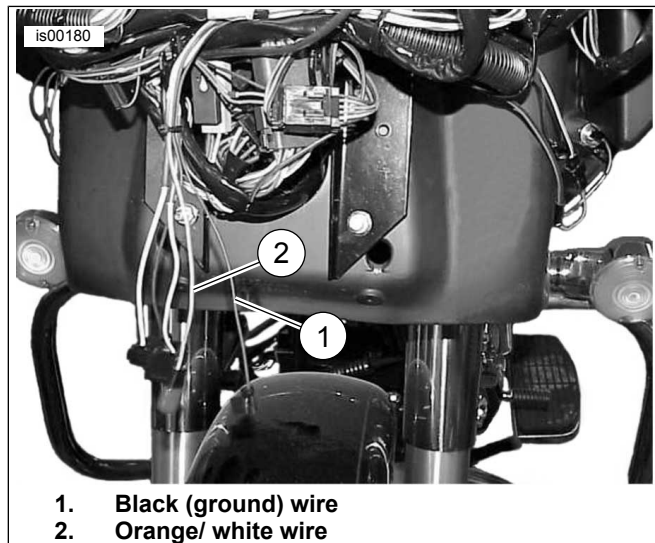
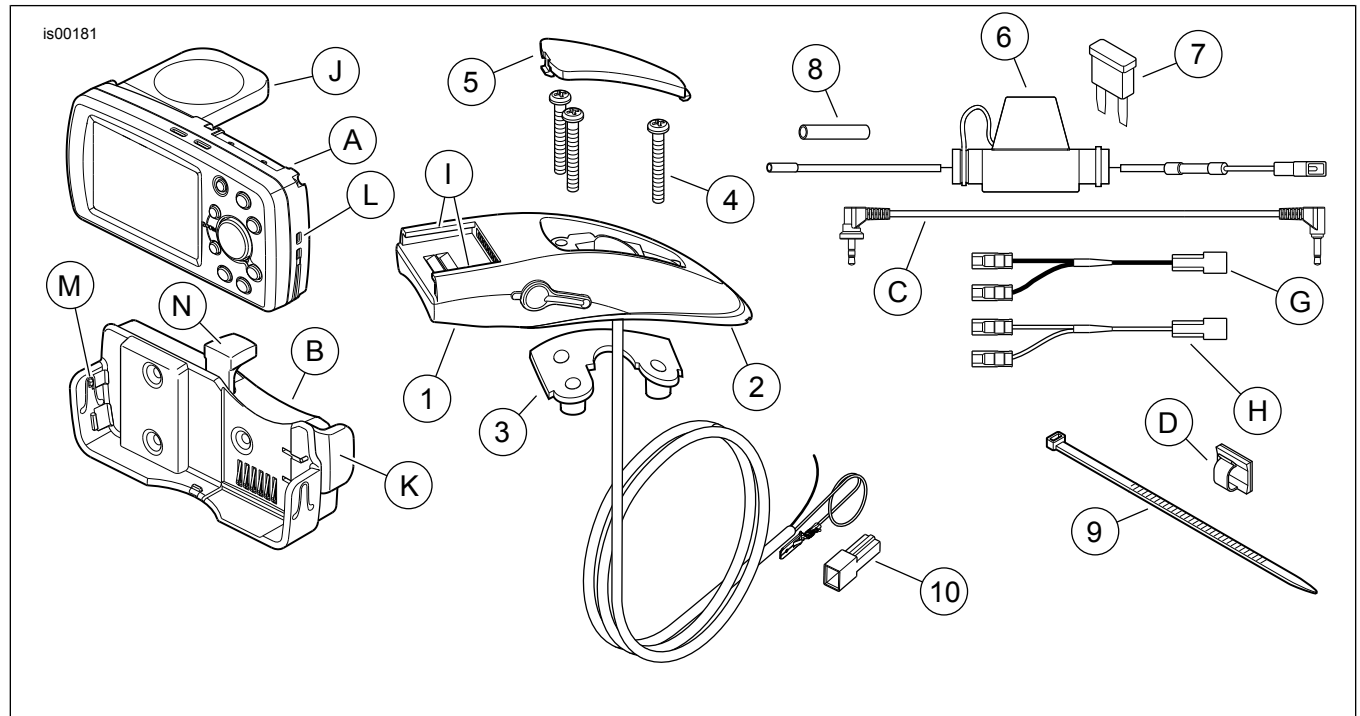

Figure 3. Wires for Hot Shoe Connection
Figure 4. Service Parts, J03555
See Figure 4 and Table 1.
3. See Figure 4. Obtain the Road Tech Quest unit (A) and cradle mount (B) from the Road Tech Quest GPS System Kit (sold separately).
4. Rotate the antenna (J) on the Road Tech Quest unit upward **at least** 90 degrees. Slide out the locking lever (K) located on the right side of the cradle mount.
5. Position the Road Tech Quest unit above the cradle mount, aligning the slots (L) on the sides of the unit with the tabs (M) on the inside of the mount.
7. Obtain the Hot Shoe (1) from the kit. Align the cradle mount with the Hot Shoe so that the grooves (I) in the Hot Shoe slide easily into the cradle mount. Slide the cradle mount back into the Hot Shoe until you hear two sharp "clicks".
12. While pressing downward on the release tab (N) on the top of the cradle mount, pull the assembled Road Tech Quest unit and cradle mount from the Hot Shoe and set it aside.
13. See Figure 4. Obtain the gasket (2), back plate (3) and three screws (4) from the kit.
17. Snap the cover (5) into the top of the Hot Shoe.
23. See Figure 3, and the INTERCONNECT HARNESS wiring diagram in the Service Manual. Proceed according to the availability of the black (1) and orange/ white (2) wires of the position lamp circuit [29B] of the interconnect harness, located near the headlamp: **If the wires of circuit [29B] are unused, and the tab connectors on the wire ends are intact:** If the wires of circuit [29B] are already in use:
- a. Remove the tape tying the black (1) and orange/ white (2) wires of circuit [29B] to the interconnect harness.
- c. See Figure 4. Obtain tab housing (10) from the kit. Fit the housing onto the tab terminal on the black wire from the Hot Shoe.
24. Obtain the 2 Amp fuse (7) from the kit, and open the cover of the fuse holder on the fuse holder harness. Plug the fuse into the fuse holder, and close the cover.
25. Plug the 3.5 mm stereo jack (with rubber boot attached) on the speaker/ audio cable (C) into the AUX-IN port on the front of the radio.
1. See Figure 4. Obtain the Road Tech Quest unit (A) and cradle mount (B) from the Road Tech Quest GPS Kit (sold separately).
2. Rotate the antenna (J) on the Road Tech Quest unit upward **at least** 90 degrees. Slide out the locking lever (K) located on the right side of the cradle mount.
3. Position the Road Tech Quest unit above the cradle mount, aligning the slots (L) on the sides of the unit with the tabs (M) on the inside of the mount.